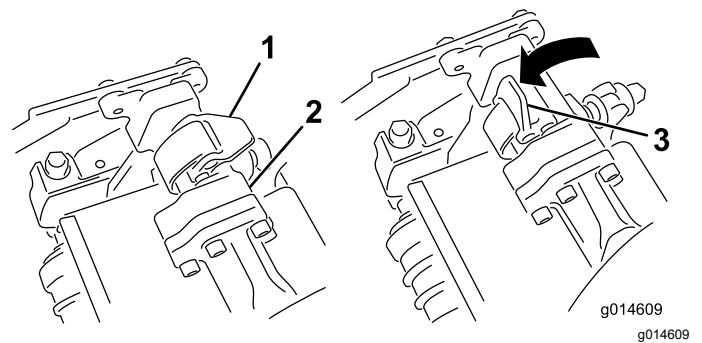
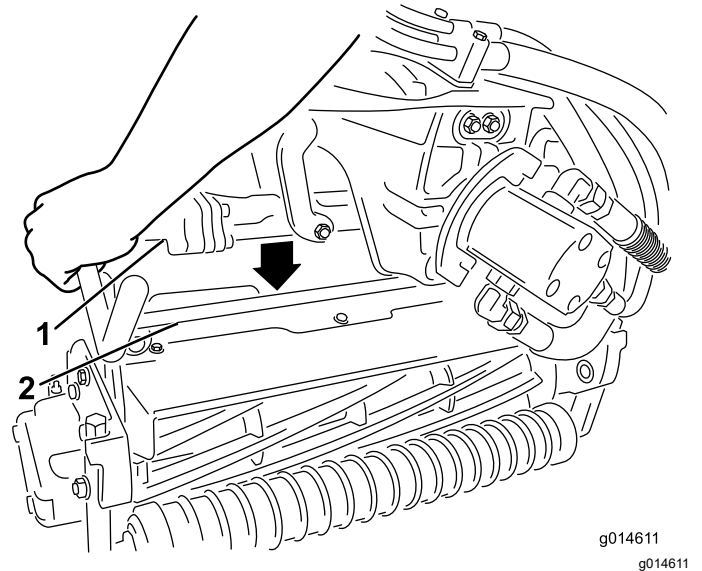

Figure 55
Figure 56
4. Close the latches down and around the cutting-unit bar and lock them in place (Figure 55).
3. With the latches on the suspension-arm bar pointing up (i.e., open) (Figure 55), push the suspension arm down so that the bar fits over the bar across the top of the cutting unit (Figure 56).
4. Open the latches on the suspension-arm bar of the cutting unit you are removing (Figure 55).